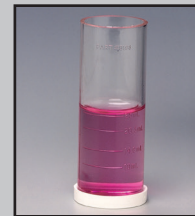

Fig. 1
3. Add 1 drop R-0638W Phenolphthalein Indicator. Swirl to mix. Sample will turn pink (Fig. 1).